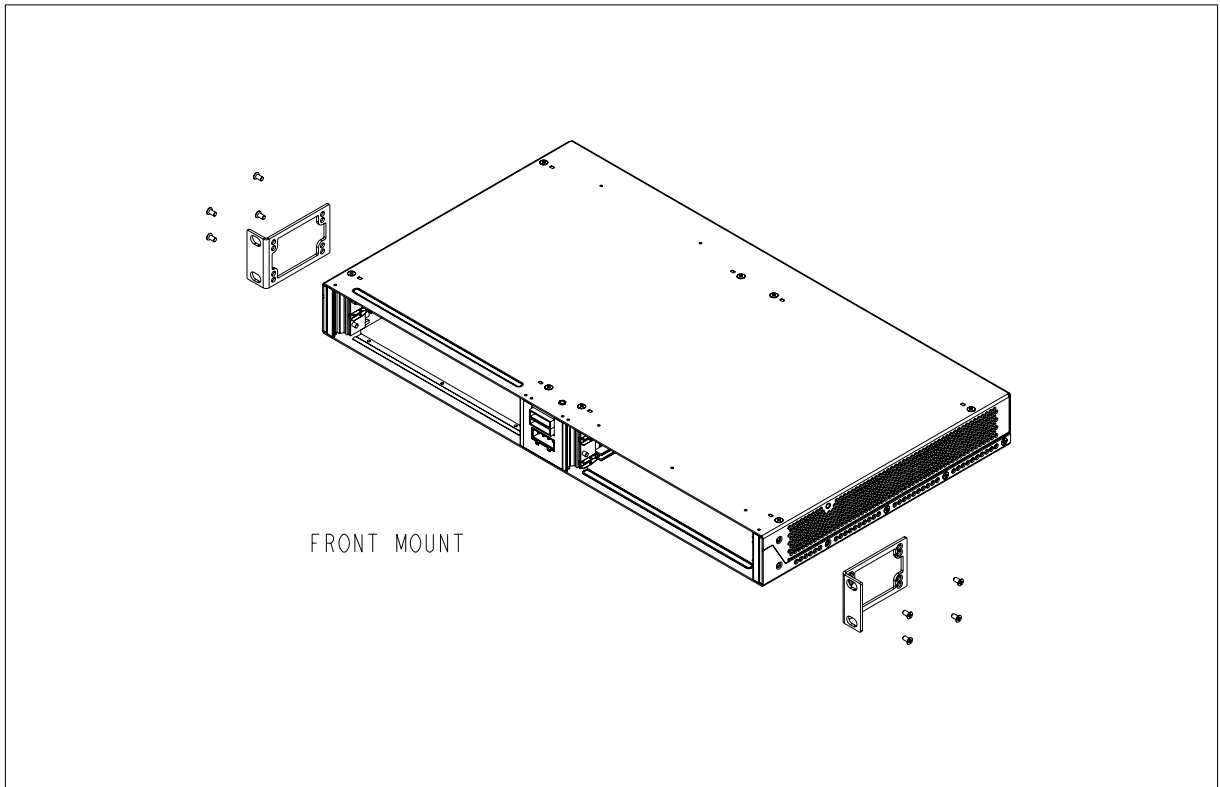

FIGURE 1-4 Front mount option for 9101
The bracket is mounted on the front of the 9101 unit as illustrated in Figure 1-4.
1. Place the brackets in the appropriate location as shown in Figure 1-4.